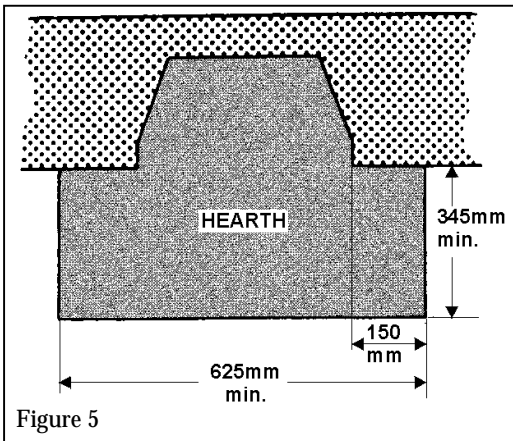

Figure 5
2.12 The appliance must be mounted behind a non-combustible hearth with minimum dimensions as figure 5. (n.b conglomerate marble hearths are considered as non-combustible). The appliance can be fitted to a purpose made proprietary class "O" 150°C surround. The hearth material must be at least 12mm thick. The periphery of the hearth (or fender) should be at least 50mm above floor level to discourage the placing of carpets or rugs over it.